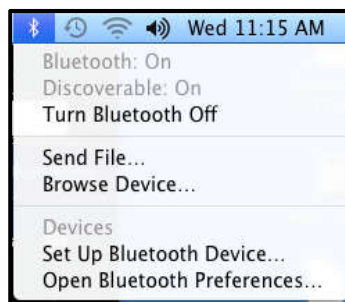

Figure 15
- 2) Reopen the Bluetooth menu and select "**Open Bluetooth Preferences**" (Figure 15).